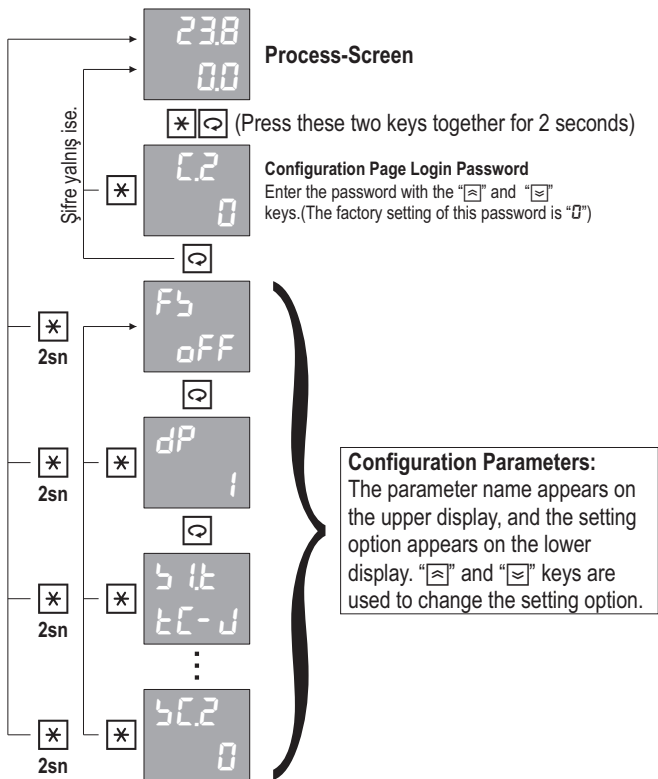

Figure-3
- ◆ **Figure-3** below is a graphical representation of these processes.